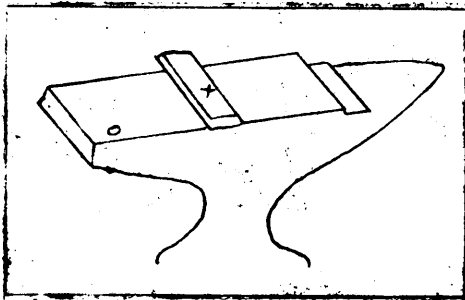
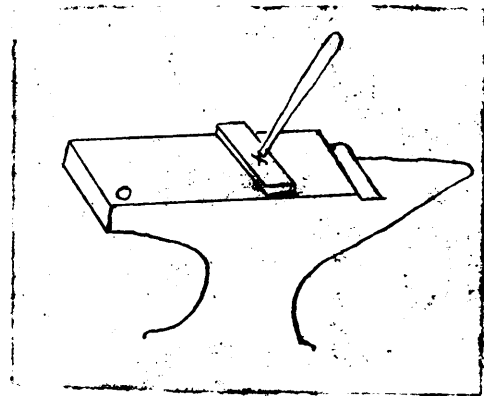

Figure 3.
Figure 4.
1. Mark place to be drilled. A cross section of two lines makes accurate work. (Figure 3). Make a deep center punch mark at place marked in Figure 3. Figure 4 shows center punch at the marked location.